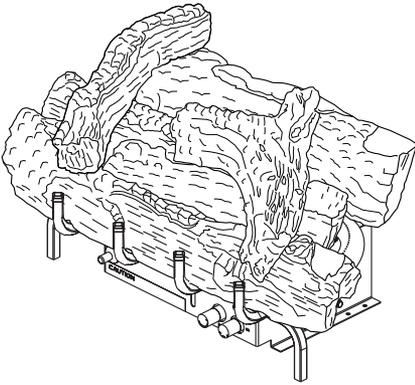

Figure 24 - Final Assembly For 18" Models
8. Final assembly for 18", 24" and 30" models is shown in Figures 24, 25 and 26.